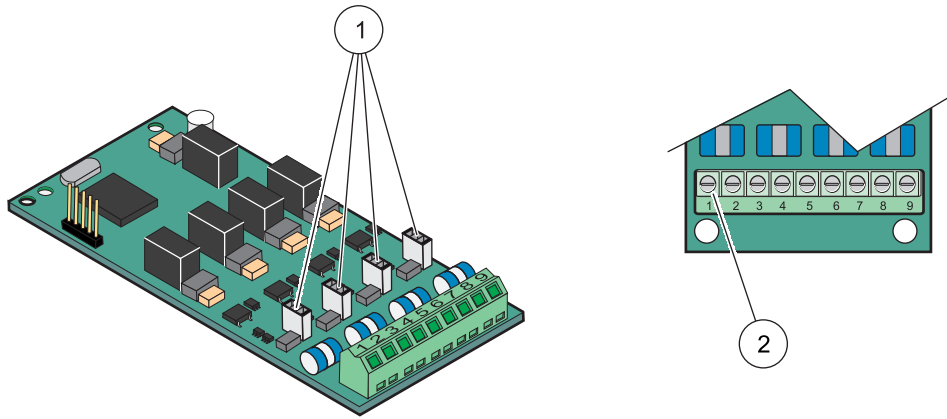

Figure 22 Input card (YAB018) cable connections and jumper setting
4. Feed the cable through the base of the module and properly prepare and insert each wire into the terminal according to Figure 22 and Table 5. Tug gently after each insertion to make sure that the connection is secure.